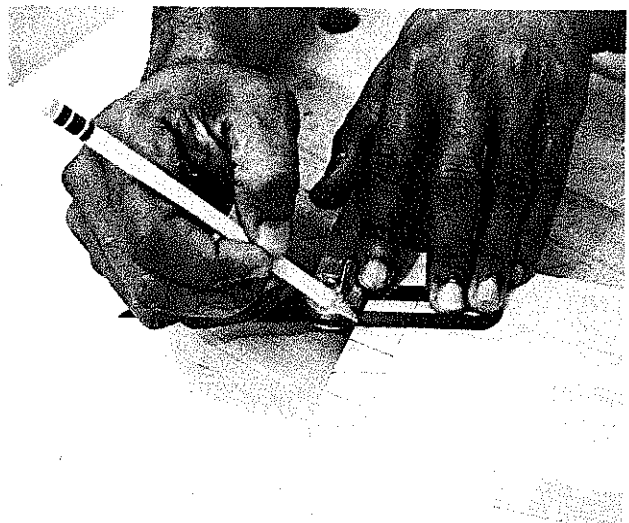
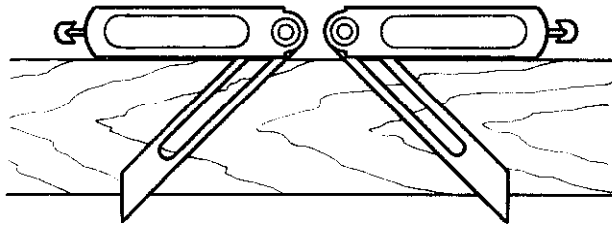

Fig. 4-35 Duplicating lines drawn at the same angle
Fig. 4-36 Laying out both sides of the dovetail
6. For duplicating lines drawn at the same angle, such as laying off dovetails for a drawer, the sliding T bevel is used as shown in figure 4-35. Both sides of the dovetail can be laid out with one setting of the blade by alternately reversing the direction of the handle. See figure 4-36.